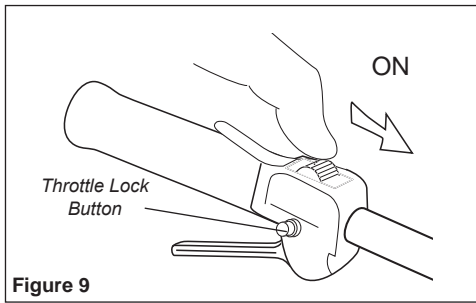

Figure 9
1. Slide the ignition switch to the "ON" position. See Figure 9.
- c. While depressing the throttle lock button, release the throttle lever. See Figure 9.